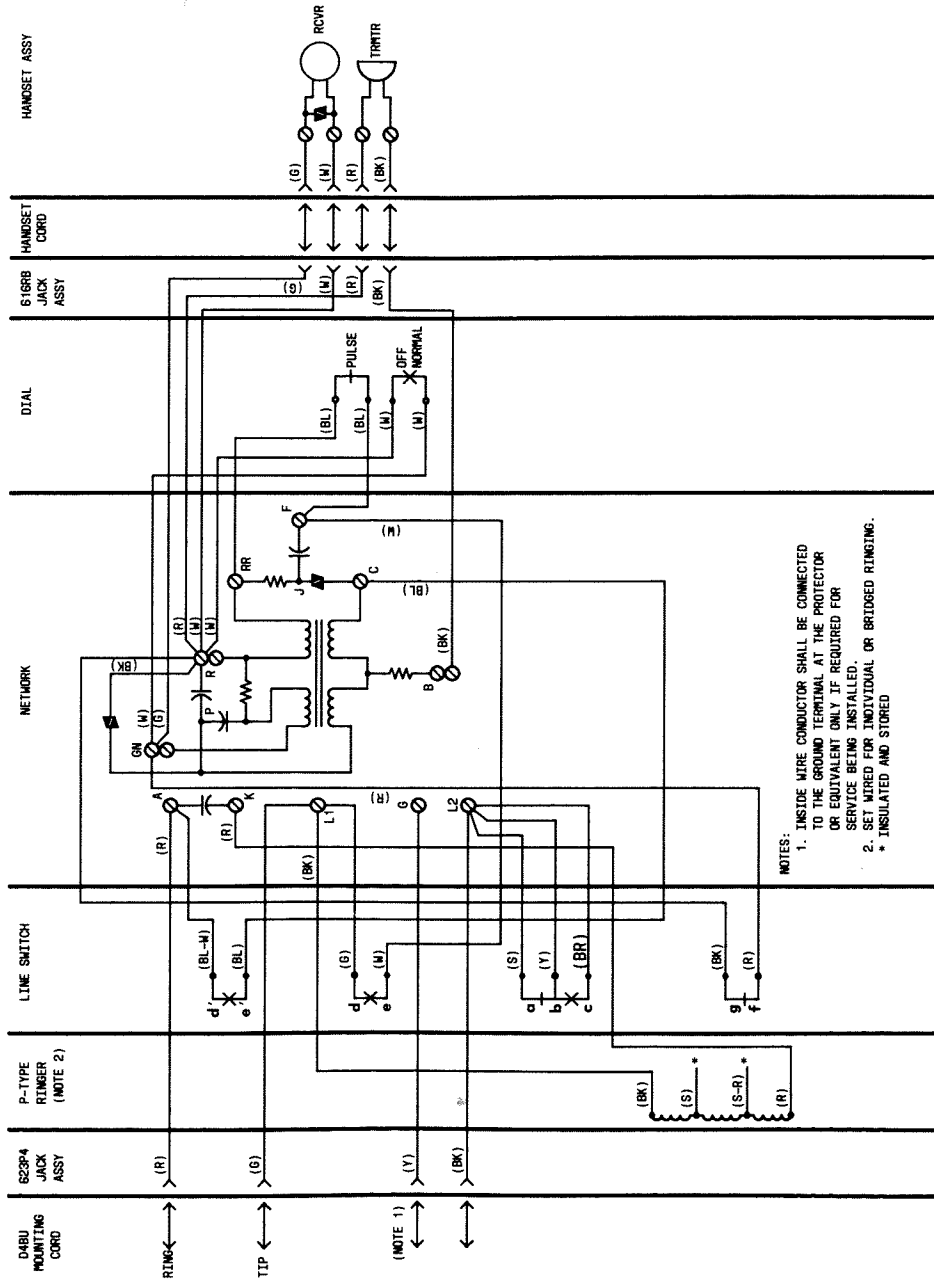

Fig. 4—951A1-03 Telephone Set, Connections
- (1) Refer to Table A for party line connections.
- (2) For adjustments and ringer cut off feature of the P-type ringer, refer to Section 501-259-101.
**3.06** Connections for 1A KTS require no telephone set modifications and are wired the same as Fig. 4.